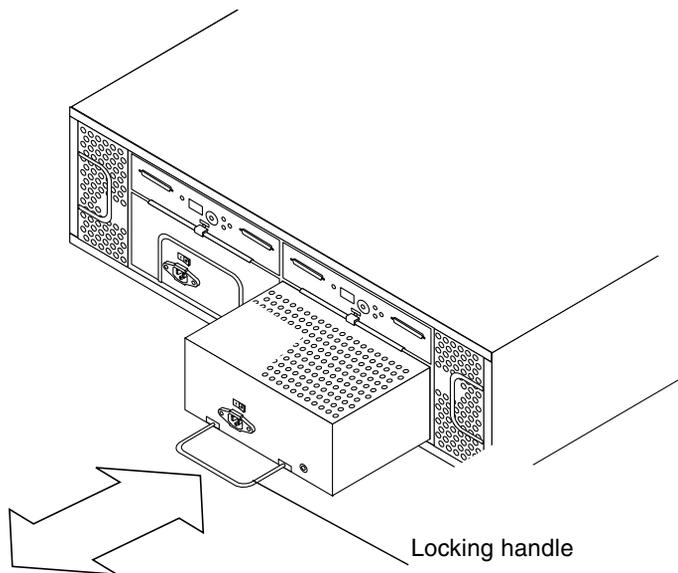

FIGURE 4-5 Removing and Replacing a Power Supply
2. Pull the locking handle down and slide the power supply out of the bay (FIGURE 4-5).